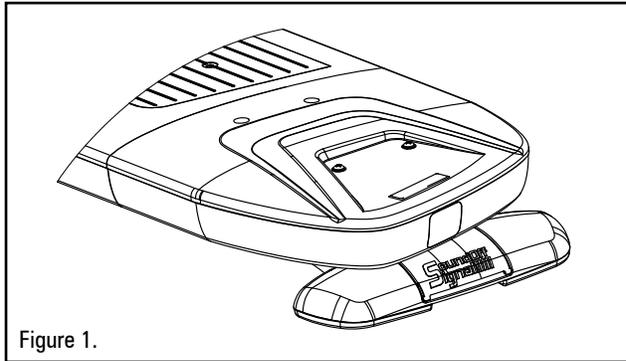

Figure 1.
1. Install the Grey gasket in the front slot of the lightbar, as shown in Fig 1.
#### Stud Mount (Figure 1)